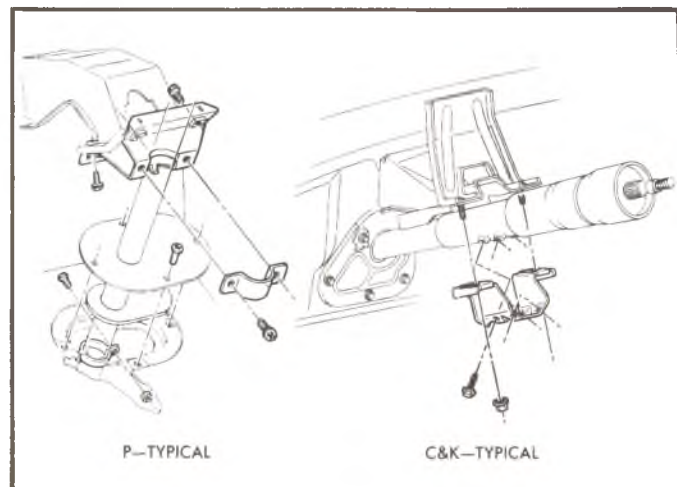

Fig. 62—Steering Column to Dash Panel - C, P and K Typical
7. Remove the screws securing the two halves of the floor pan cover; then remove the screws securing the halves and seal to the floor pan and remove the covers (figs. 62 and 63).